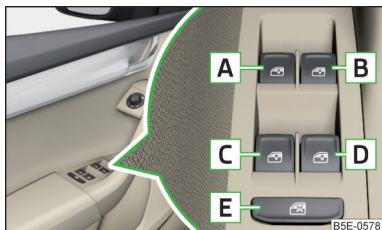

Fig. 59
Power window buttons » Fig. 59
- After the driver or front passenger door is opened, the operation of the window is only possible with the button **A** » Fig. 59, in which case this is pressed or pulled for approx. 2 seconds.
- ▶ **or:** Switch off the ignition, open the driver's door and hold the key  until it stops in the open position » Fig. 59 on page 68.
- ▶ **or:** Switch off the ignition, open the driver's door and hold the key  until it stops in the closed position » Fig. 59 on page 68.